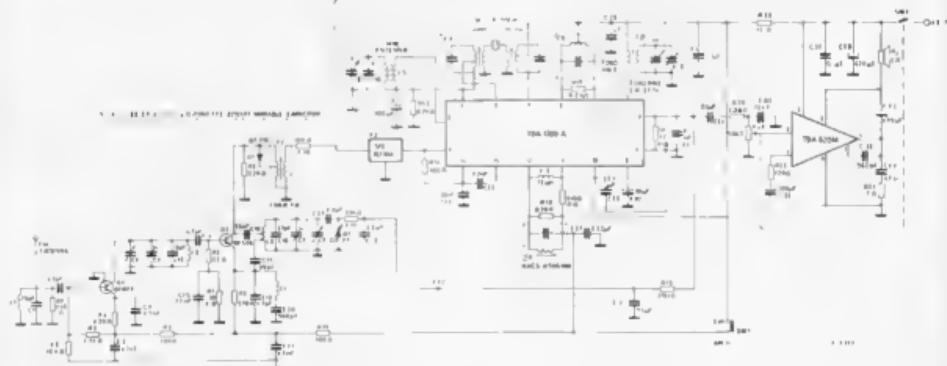

Figure 1. The circuit diagram for the AM/FM receiver. Construction of this project will be easier for readers with some experience of receivers.
The circuit diagram in figure 1 shows a complete, battery powered receiver which can be built into a very compact set, as can be seen from the photograph. All that needs to be connected are a 9 V battery, a 4 Ω loudspeaker and an FM aerial (a piece of wire) and the home-built portable radio is ready for use. What's more, it is much better in quality than the many cheap, imported radios commonly available.
In May 1980 Elektor published an extensive article on liquid crystal displays and the 'twisted nematic' principle upon which most types are based. Figure 1 shows the basic construction of a 'normal' black and white LCD. A layer of liquid crystal is situated between two glass plates. The layer consists of a crystalline molecular structure which changes under the influence of an electric field. Depending on the direction in which the molecules are organised, the liquid crystal layer becomes either transparent or reflective.
**Figure 1.** Basic construction of a 'normal' black and white liquid crystal display that is based on the 'twisted nematic' principle. The liquid crystal layer is hermetically enclosed between two glass plates containing transparent, conductive electrodes. The direction of the molecules changes under the influence of an electric field. In combination with the external polarisation filters, 'capturing' the molecules between the triggered electrodes causes a change in the transparency of the corresponding segment.